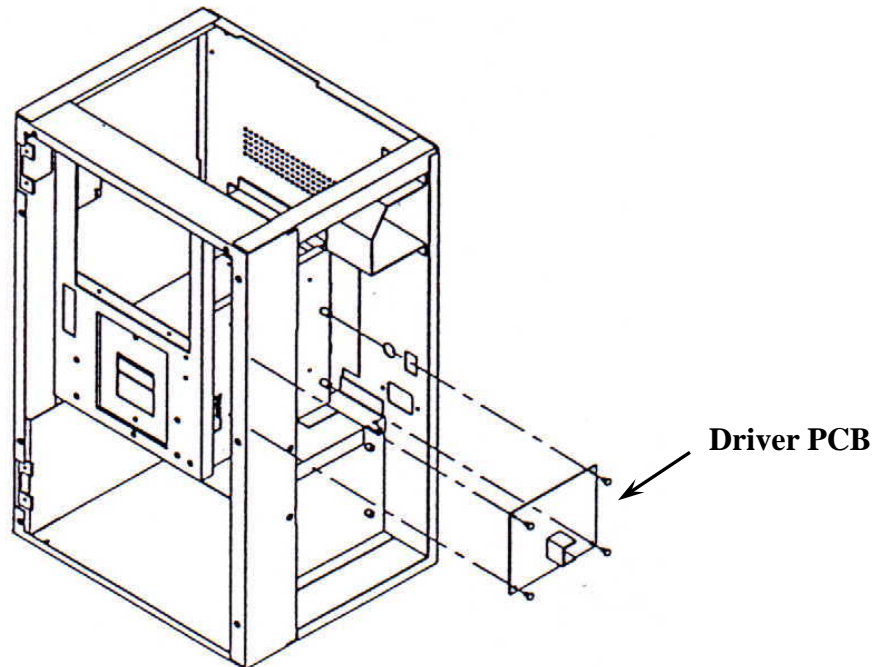

Figure 3-7. Driver PCB Replacement.
4. Remove the four screws on the driver PCB (Figure 3-7).
2. Fasten the four screws on the driver PCB (Figure 3-7).